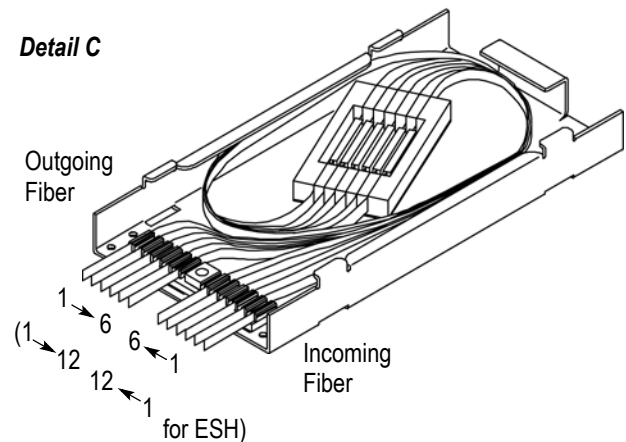

Figure 5
1. Measure approximately 610 [24] of incoming fiber, and fit the fiber into the first slit (slit closest to the side of the tray) in either end cap. Refer to Figure 5, Detail A.
2. Loop the incoming fiber around the holder and under the fiber routing tab. Temporarily fit the fiber into the first (outermost) slit in the holder as shown in Figure 5, Detail A.
3. Measure approximately 330 [13] of outgoing fiber, and fit the fiber into the first slit (slit closest to the side of the tray) in the opposite end cap. Refer to Figure 5, Detail B.
4. Loop the outgoing fiber around the holder and under the fiber routing tab, and temporarily fit the fiber into the first (outermost) slit in the opposite end of the holder as shown in Figure 5, Detail B.
5. Remove both fibers from the holder, and splice them according to local practices. Be careful not to twist the fibers. Fit the fibers back into the slits with the splice positioned in the cutout in the holder. See Figure 5, Detail B.
6. Repeat these steps for a maximum of six splices (for UDH) and twelve splices (for ESH)- working from the outside to the center of the tray. See Figure 5, Detail C for a properly loaded tray.